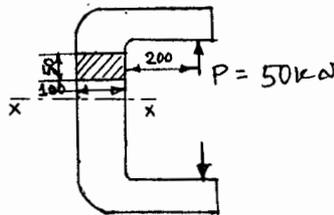

Fig.Q1(c)
c. Determine extreme fiber stresses at section x - x of the machine member loaded as shown in Fig.Q1(c). Also show the distribution of stresses at this section. (10 Marks)